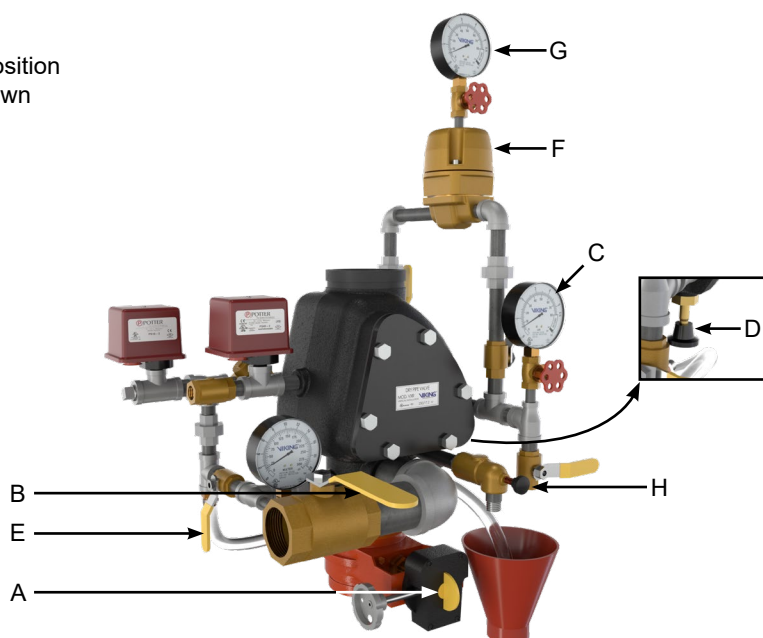

Figure 2: System Placed in Service
- The Model VXR Dry Valve must be installed in the vertical position as shown in Figure 2.
4.6 Placing the System in Service (Refer to Figure 2)